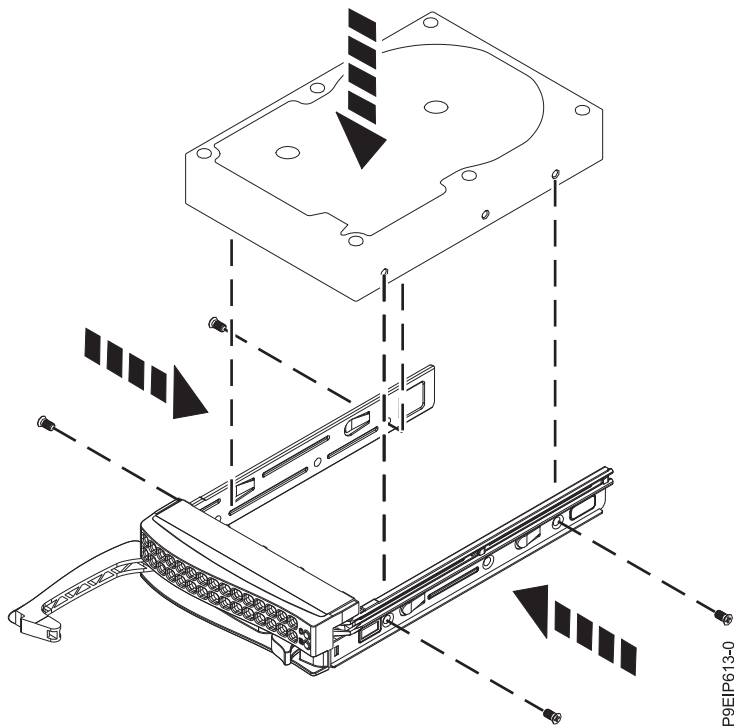

Figure 6. Mounting the 3.5-inch drive in the tray
- A 3.5-inch drive fills the tray, as shown in Figure 6 on page 10. Fasten the drive to the sides of the tray with four screws (two screws on each side).